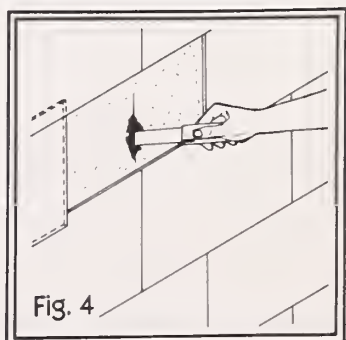

Fig. 4
2. Examine the building paper underneath and patch any tears or cuts with asphalt cement (fig. 4).